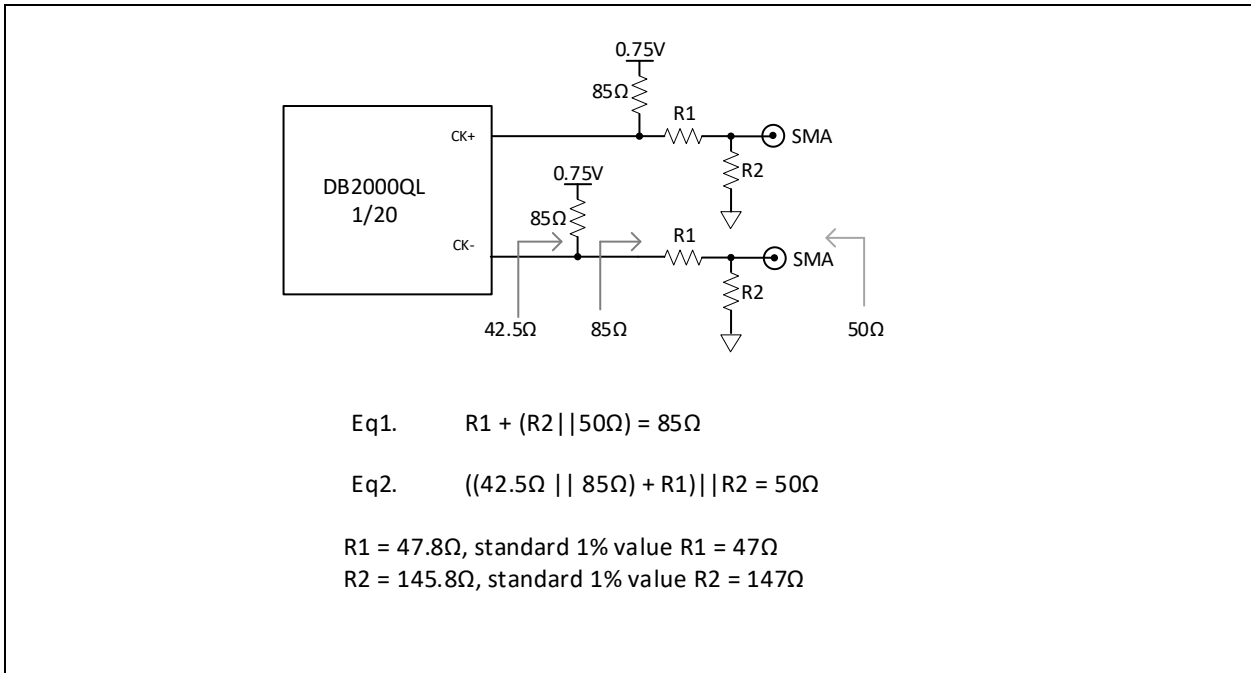

Figure 18. DC Test Load (as per DB2000QL)
- 1 Measured into DC test load, see Figure 18